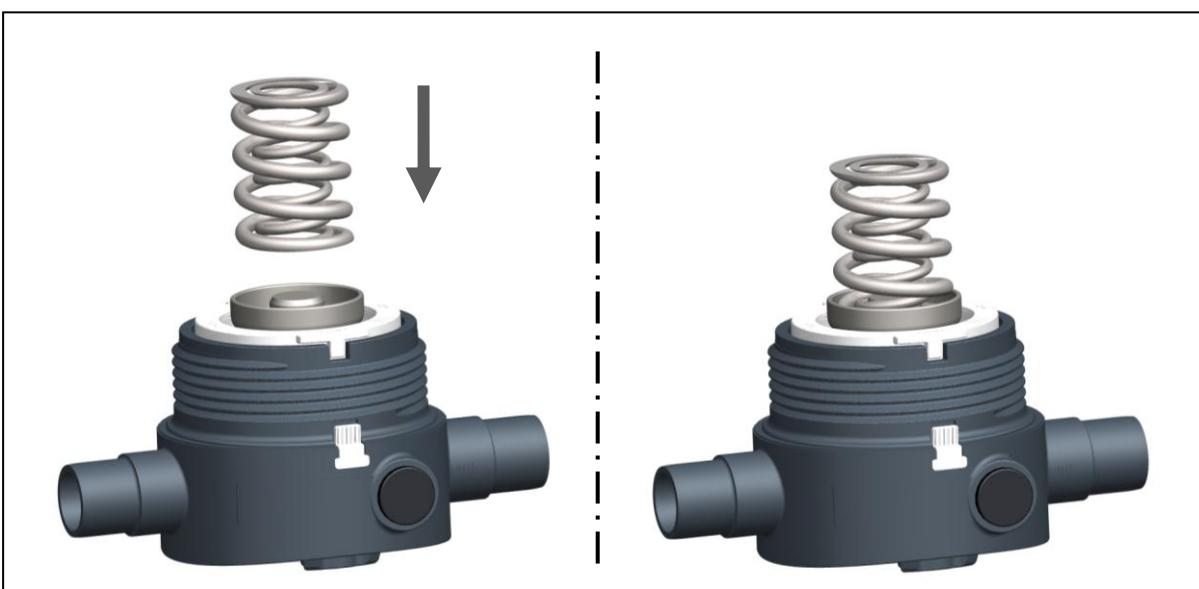

Fig. 15
- Put the springs on the thrust piece, see Fig. 15